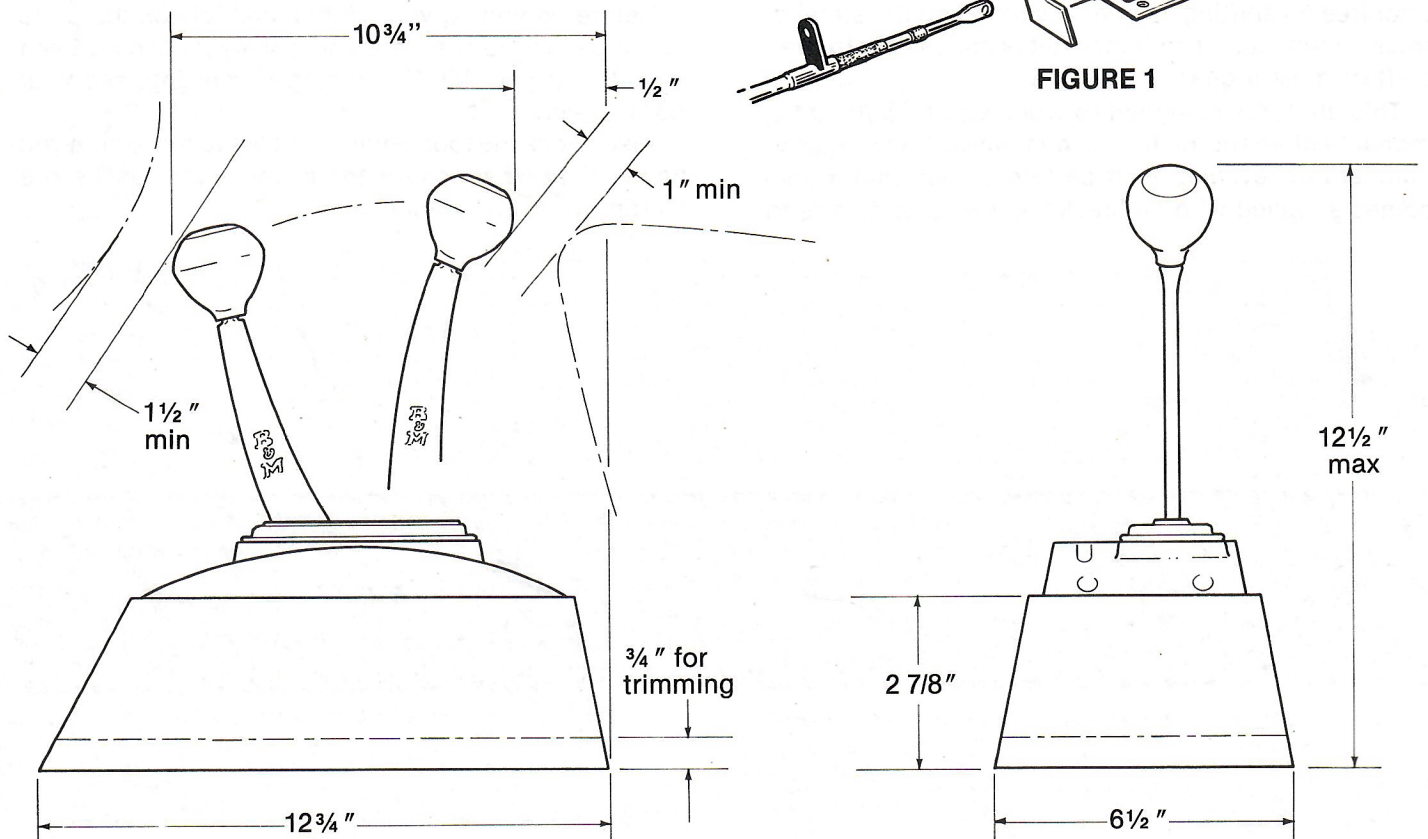

FIGURE 2
Step 3. Pull carpet away from floorboard where shifter will be mounted. Locate shifter in vehicle (See Fig. 2). The rear mounting hole in the mechanism must be at least 1 3/4 inches from the front of the seat when the seat is in the full forward position. Locate the shifter for ease and convenience of operation. Make sure shifter knob clears dashboard in Park position. Mark the position of the four mounting holes in the floor.